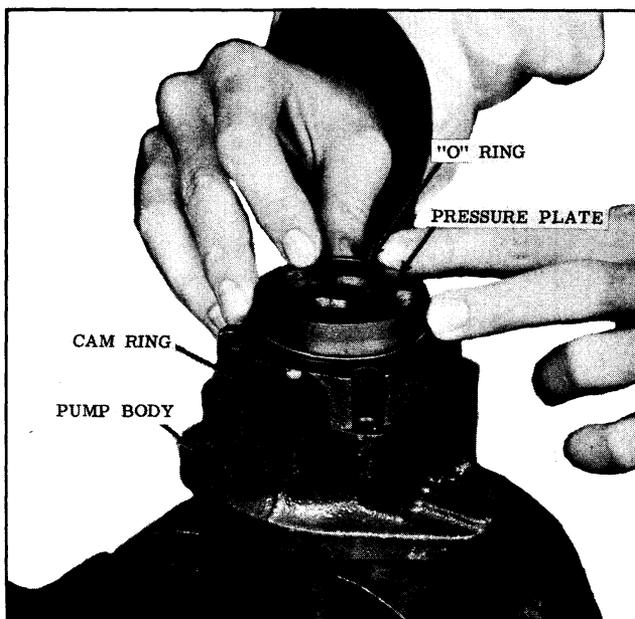

Fig. 5-83 Pressure Plate and "O" Ring
11. Place the pressure plate on the cam ring over the dowel pins. Place "O" ring around pressure plate. (See Fig. 5-83)